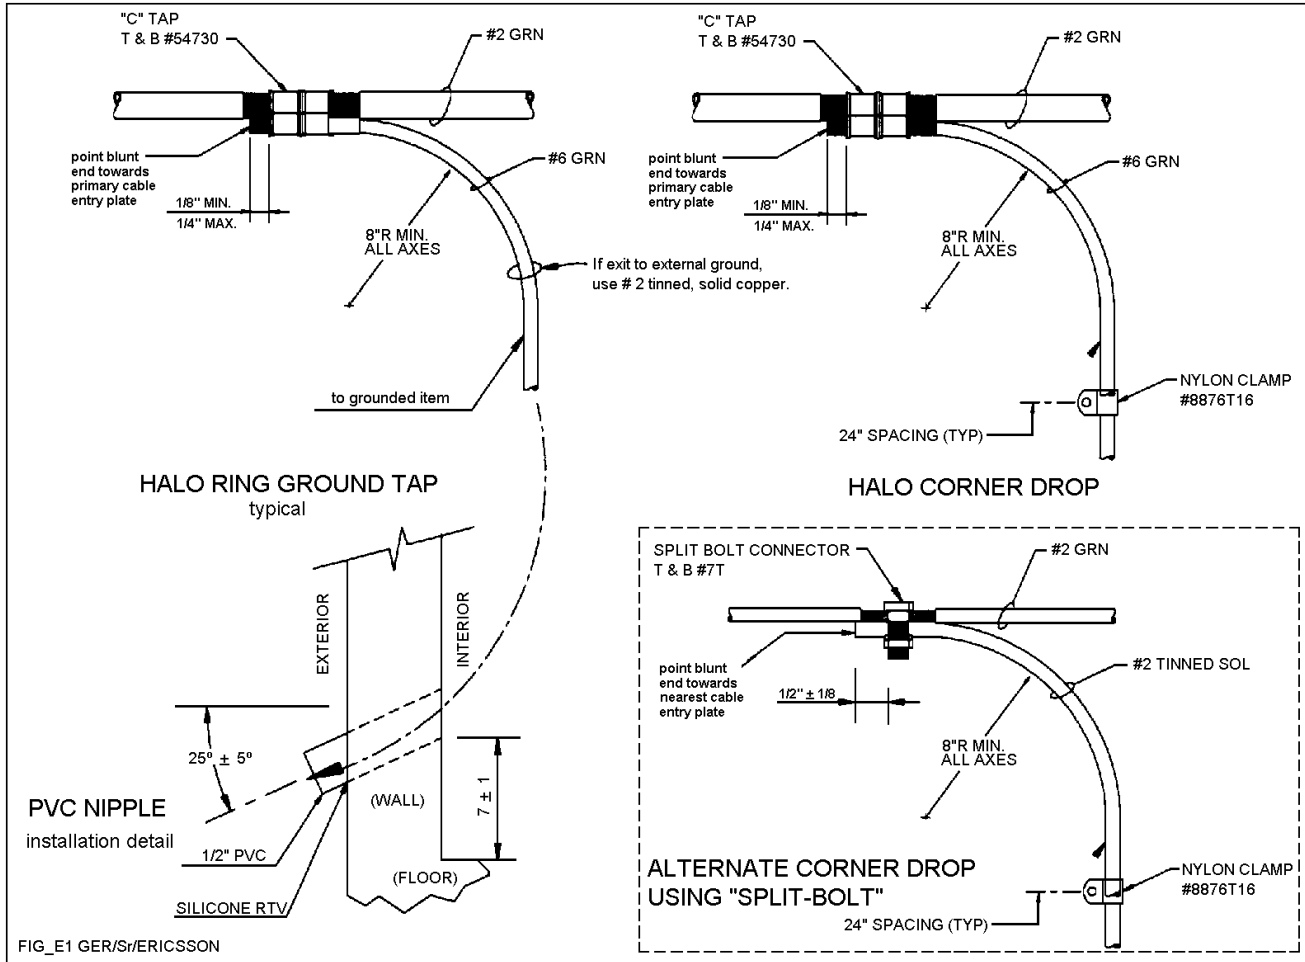
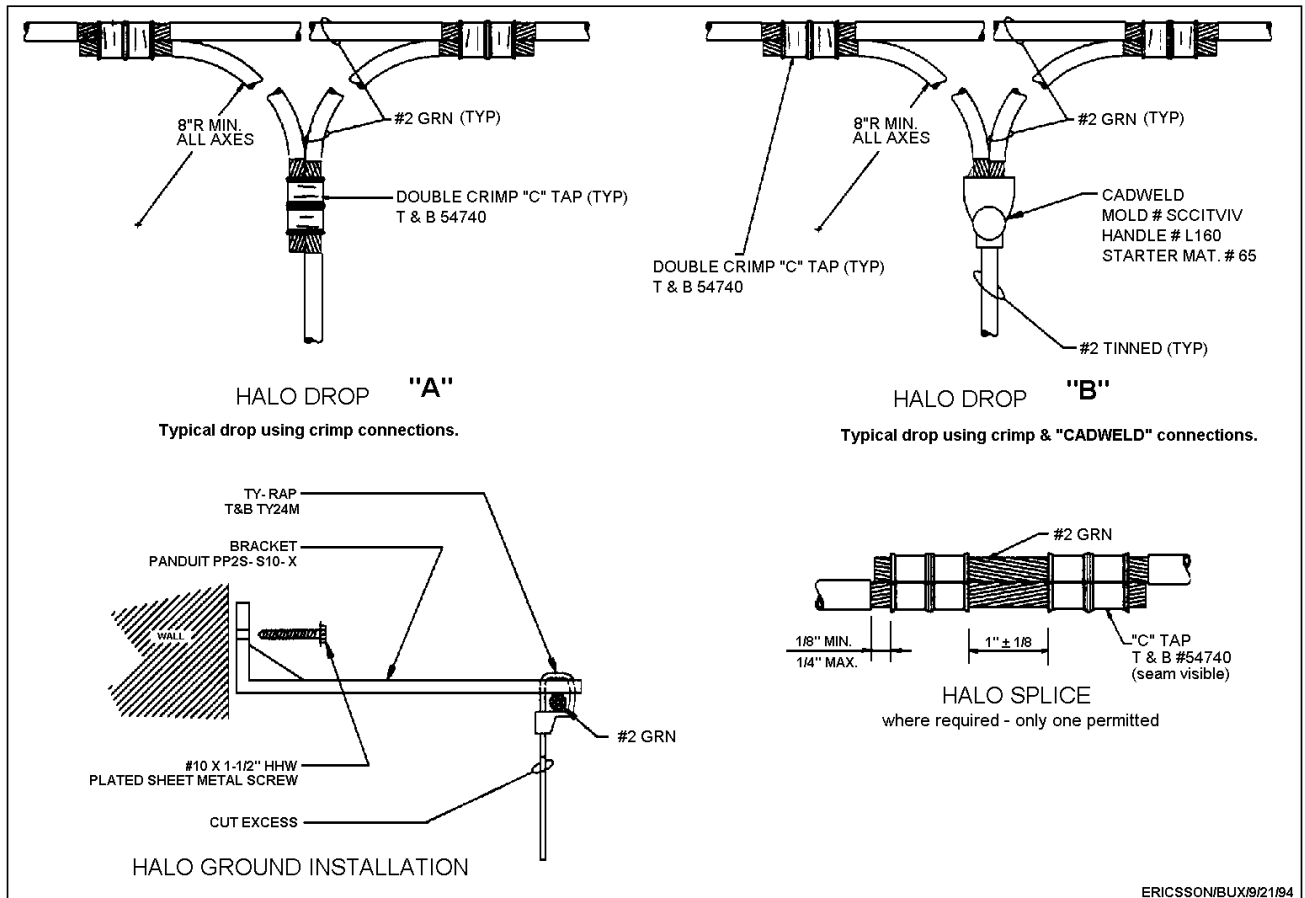

FIGURE A1-"HALO" Attachments
FIGURE A2-Internal "HALO" connections
This Halo is made of number 2 AWG stranded copper wire attached to standoffs (see appendix A, figure A2) at approximately eight (8) feet above the equipment room floor.
Where the room or communications shelter has less than 100 feet of perimeter, a minimum of four (4) ground risers are used. In any case, where possible, a ground riser is used at each corner of the perimeter (see appendix A, figures A1 & A2) . In installations where the perimeter of the equipment room exceeds 100 feet, a ground riser will be attached at every twenty (20) feet of perimeter (see appendix A, figure A2). These ground risers are made of number 2 AWG *SOLID* copper which exit the room, or building via **polyvinyl conduits** (see PVC exit method in appendix A, figure A1).